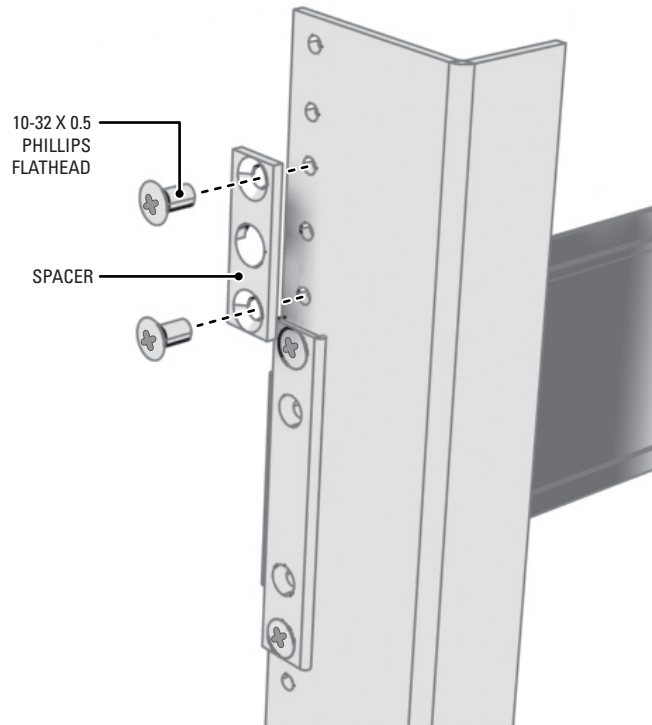

Figure 13. Attaching the Rack Rail Spacers
8. Attach one rack rail spacer to the front of the equipment rack (refer to Figure 13):